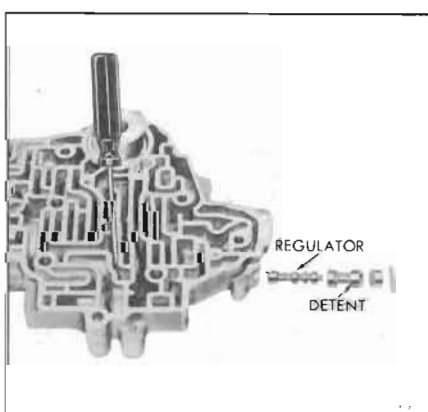

Figure 74-613
9. In the next bore up, install the detent spring and spacer. Compress spring and secure with small screwdriver. See Figure 74-613.
10. Install the detent regulator valve. Wide land first. See Figure 74-613.
11. Install the detent valve, narrow land first. See Figure 74-613.
12. Remove the screwdriver as the bore plug (hole out) and retaining pin are installed. See Figure 74-613.